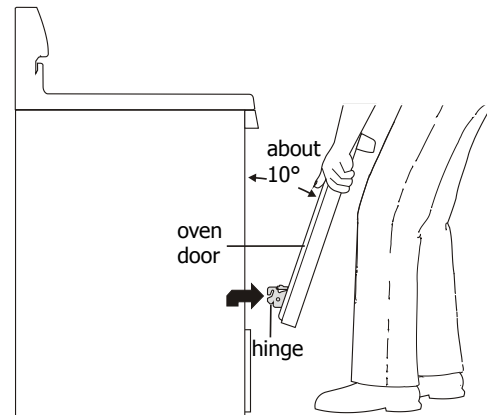
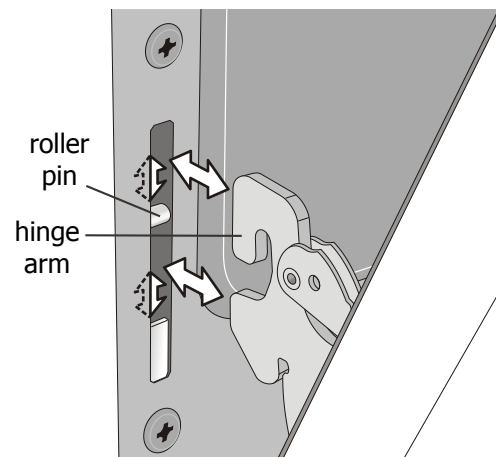

Fig. 3
Fig. 4
5. With the oven door in the broil stop position (Fig. 3), lift the oven door hinge arms over the roller pins located on each side of the oven frame (See Fig. 4). To avoid damage to oven finish, be careful not to allow the oven door hinges to contact the oven front frame.
2. Holding the oven door at the same angle as the removal position (See Fig. 3), seat the hook of the hinge arm over the roller pins located on each side of the oven door frame (See Fig. 4). The hook of the hinge arms must be fully seated onto the roller pins.